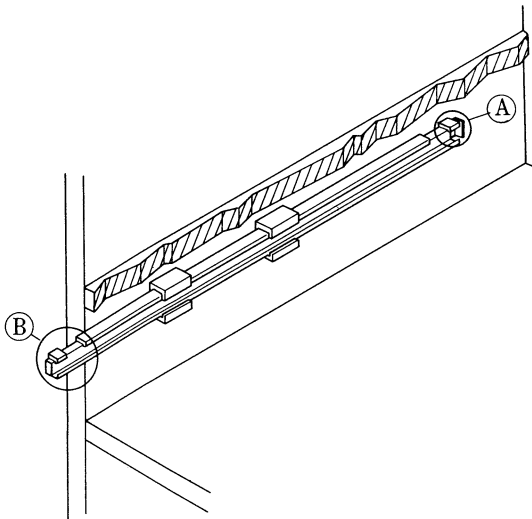

FIG. 11
4) Slide the drawer rails into the guide supports (Fig. 11) then bend part marked 'A' forward, until it prevents the rail from sliding out of the guide.
5) Insert the drawer basket assembly into the drawer rails by firstly slotting the rear rollers into the opening marked 'B' (Fig. 11) then push in the basket until you are able to drop in the second set of rollers.